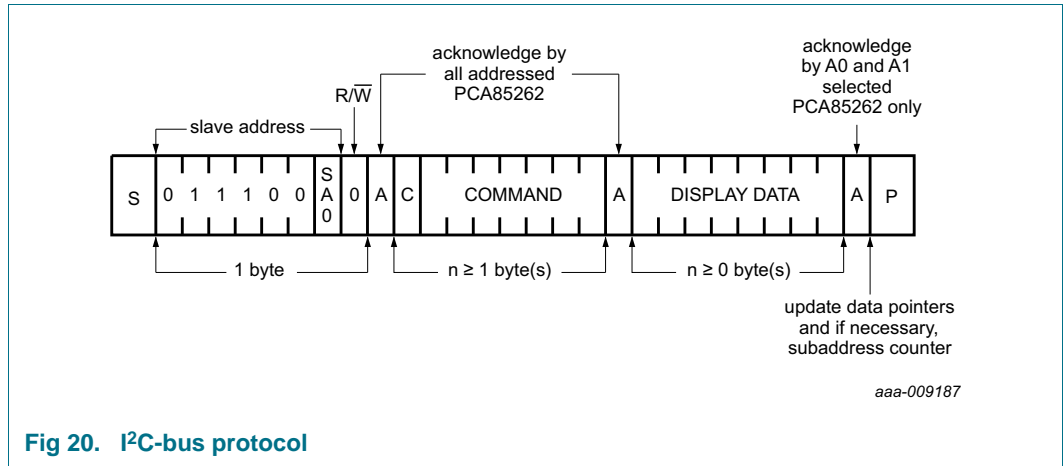

Fig 20. I²C-bus protocol
The I²C-bus protocol is shown in Figure 20. The sequence is initiated with a START condition (S) from the I²C-bus master which is followed by one of the two possible PCA85262 slave addresses available. All PCA85262 whose SA0 inputs correspond to bit 0 of the slave address respond by asserting an acknowledge in parallel. This I²C-bus transfer is ignored by all PCA85262 whose SA0 inputs are set to the alternative level.